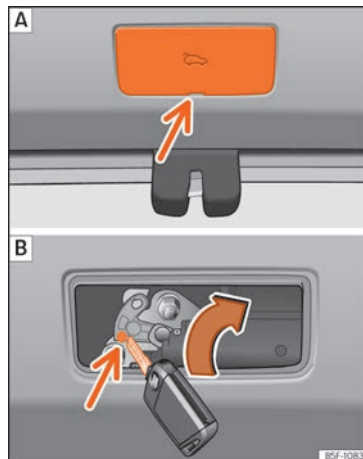

Fig. 107 Detail of the luggage compartment: emergency unlocking (Leon Sportourer ST model).
- Remove the cover by inserting a screwdriver into the slot »» Fig. 107 [A].
- Insert the key into the opening and turn it in the direction of the arrow until the latch is released »» Fig. 107 [B].